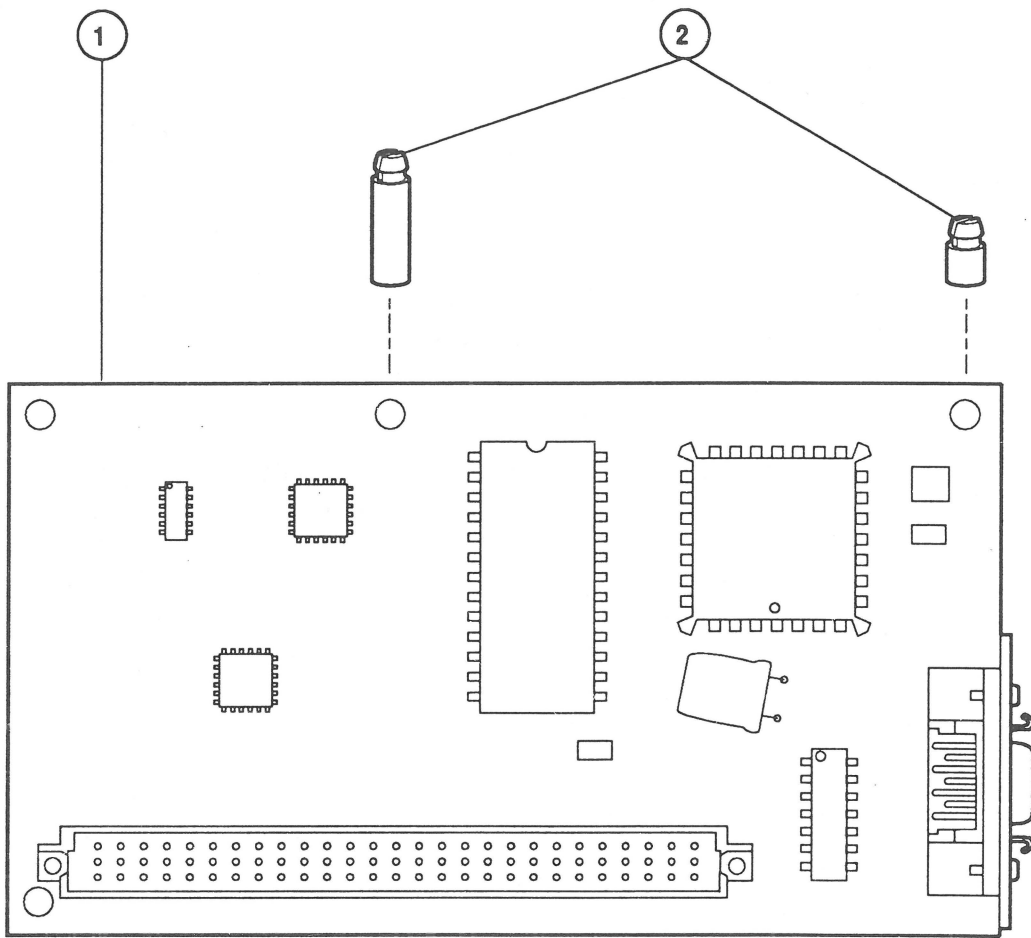

Figure 1 Apple Ethernet LC Card
- IPL.3 Apple Ethernet LC Card (Figure 1)
□ **APPLE ETHERNET LC CARD (Figure 1)**